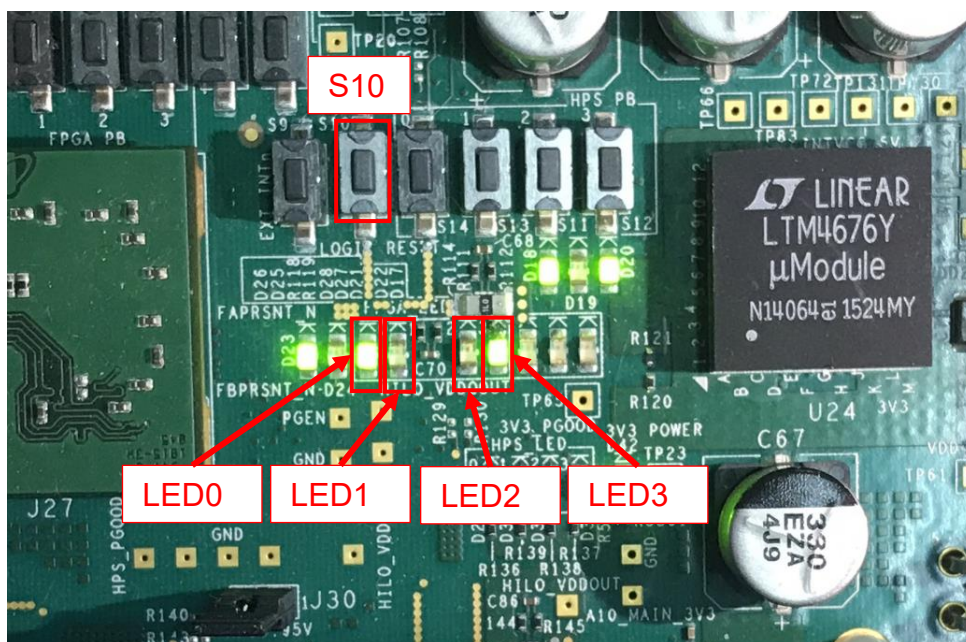

Figure 3-5 LED[3:0] status on board
- 8) When configuration is completed, user can check status LEDs on board as Figure 3-5